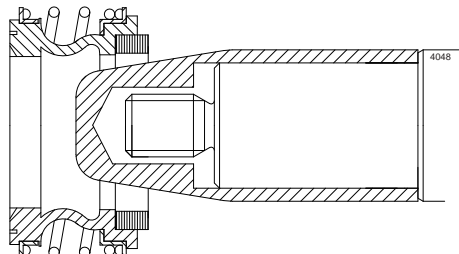

Figure 24: Special mounting bush.
- *Special tools: the seal group M1 is easily mounted by using a special conical mounting bush. The mounting bush covers the sharp edges on the shaft, which means that the risk of damaging the seal during assembly is reduced. See figure 24.*